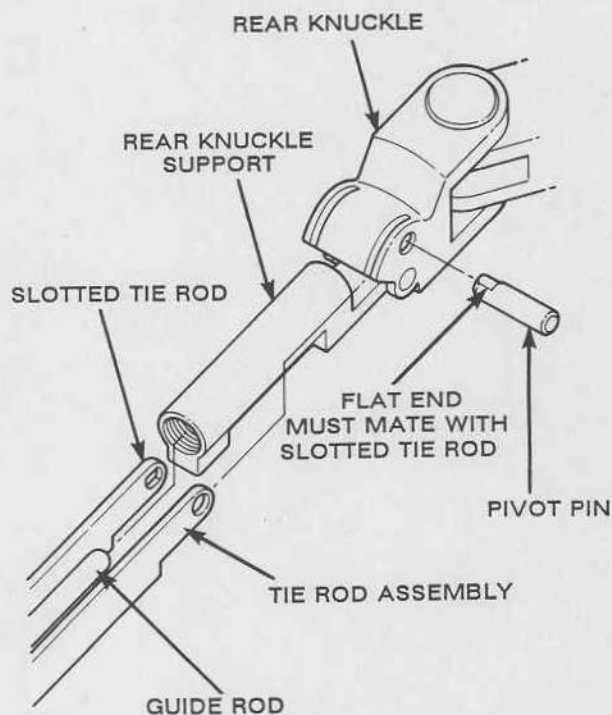

FIGURE 14 - REPLACING ARM SPRING ASSEMBLY
K. Slip cover off front arm. (NOTE: Method of replacing old or new style springs is identical.) Remove pivot pin in tie bar assembly from rear knuckle support using pin punch and set aside. Discard tie bar assembly (Figure 14).
L. Insert the new arm spring into rear knuckle support. Ensure notch in pivot pin is oriented in same direction as slotted ends of tie bars (Figure 14).